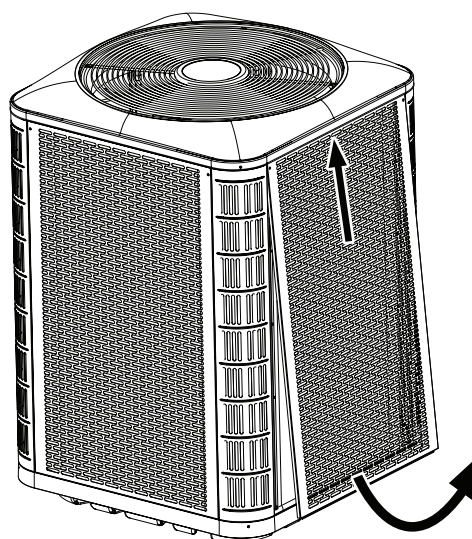

Figure 4. Panel Removal
- To access the outdoor coil on units equipped with louvered panels, refer to Figure 4 for panel removal and Figure 5 for panel installation.
2. Slide the panel up towards the top pan in order to clear the bottom flange from the base pan. See Figure 4.